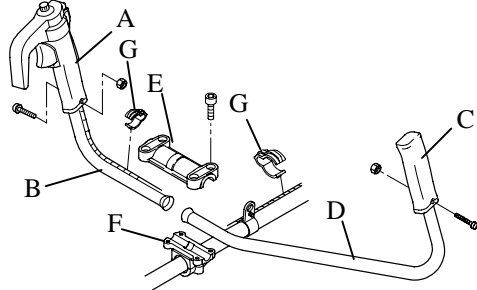

Fig.8-1
Mount the control handle (A) on the handle (B) and the grip (C) on the handle (D). Engage individual handles with the grooves in the handle holder (F), hold them with the handle holder (E), and fix them with bolts. Fix the wire/cord Assy to the handle with a band (G). (Fig. 8-1)